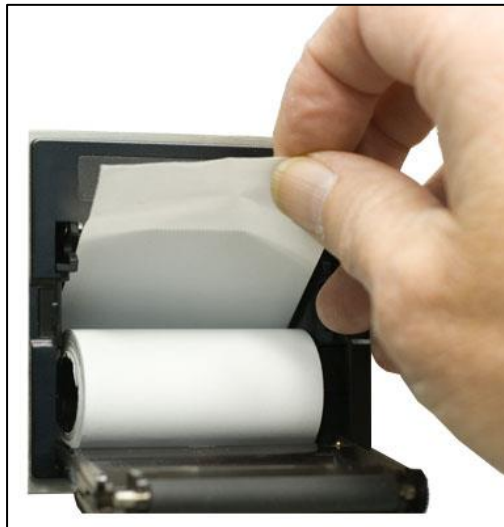

Figure 3-12 Placing the Paper into the Printer.
2. Unroll about two inches of paper and place the roll into the printer as shown in Figure 3-12.